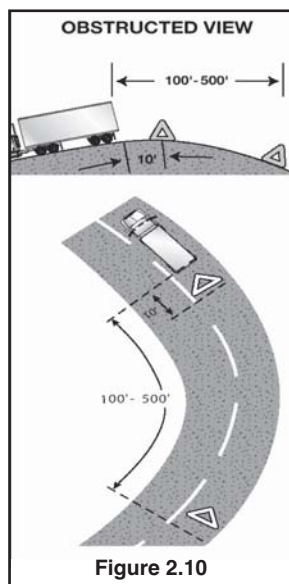

Figure 2.10
- Back beyond any hill, curve or other obstruction that prevents other drivers from seeing the vehicle within 500 feet. If line of sight view is obstructed due to hill or curve, move the rear-most triangle to a point back down the road so warning is provided. (See Figure 2.10.)